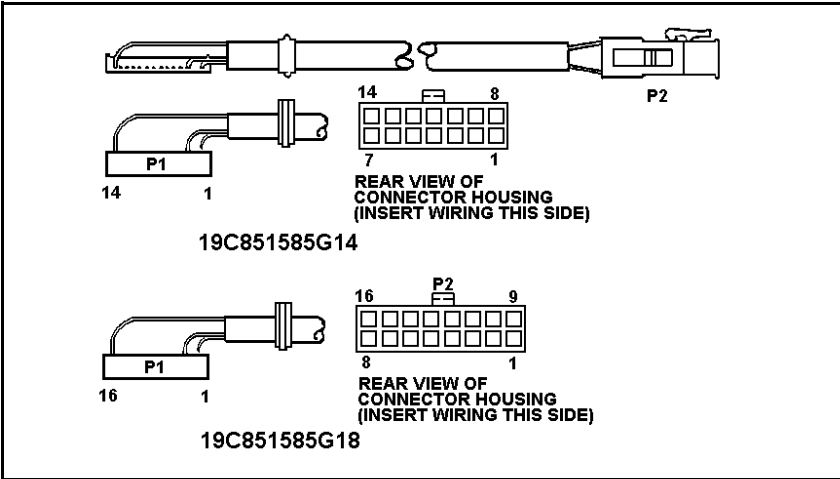

Figure 8 - Option Cable Pin Locations
The Option Cable brings all option connections from the System Board through the back of the radio to the outside. This cable is required with all external options (except the Remote Mount Option). Supplied with the Option Cable is the empty connector housing which plugs into P2 of the Option Cable. Pins supplied on the ends of the wires of each option (Molex #39-00-0060) are inserted into this connector housing. Refer to the Interconnection Diagram in the back of this manual. See Figure 8 for pin locations.
3. Pins are supplied on the ends of the external speaker cable option PMCC9M. Push these pins into sockets 2 and 9 of the connector housing supplied with the option cable. Refer to Figure 8.